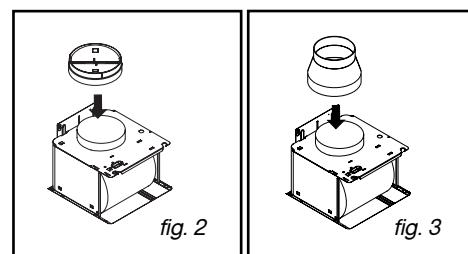

fig. 3
- If a 125-mm flue is being installed, use the adapter provided (fig. 3).
- Slide one end of the flue over the deflector and the other end over the motor outlet (fig. 3).
- Prepare your ventilation shaft, taking care to face the vents upward so that they are visible (B/fig. 3).
- Attach the upper portion of the ventilation shaft (C/fig. 3) on the metal smoke deflector (A/fig. 3) using the two screws (F/fig. 3).